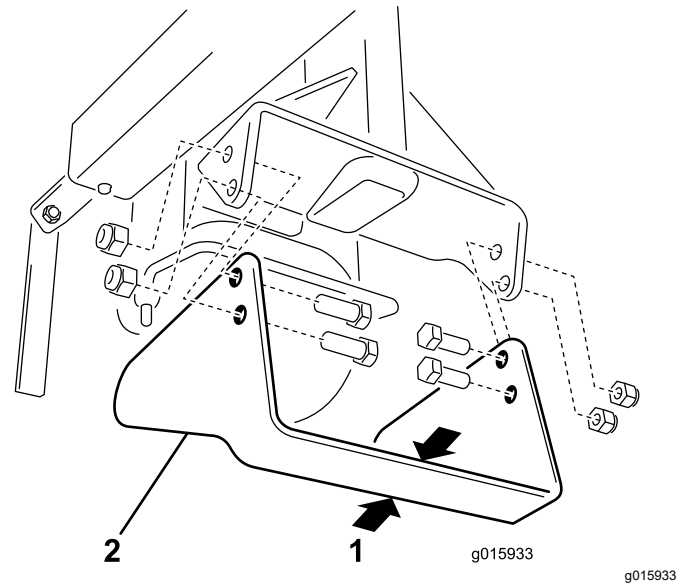

Figure 15
Check the edger blade frequently and replace the blade when the blade width is reduced to 1-1/4 inches (Figure 15).
3. Remove the 4 screws and 4 nuts that secure the blade to the cutter arm (Figure 15).